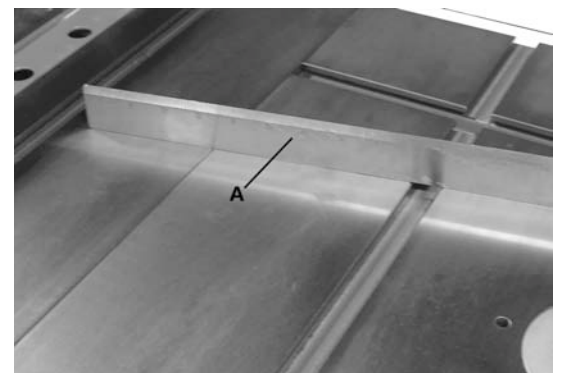

FIGURE 4
- 1) The top of the router table must be installed flush with the top of the table. To do this, place a straightedge (A) Fig.4 on top of both tables. Adjust the height of the router table, once perfectly flush with the table top, tighten the router table mounting hardware.